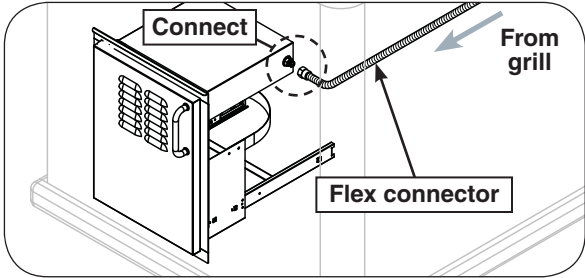

Fig. 1-2 Connect grill flex connector to unit
4. Connect the flex connector (coming from the already installed Fire Magic grill) to the adapter found on the exterior of the door assembly. See Fig. 1-2.